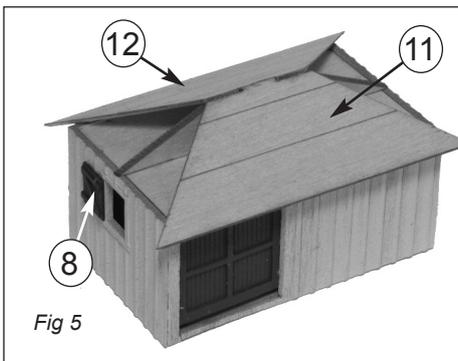

Fig 5
5. Apply glue to the ridge of roof sections **11** and **12** and "drape over the roof support **10**. (Fig 5)